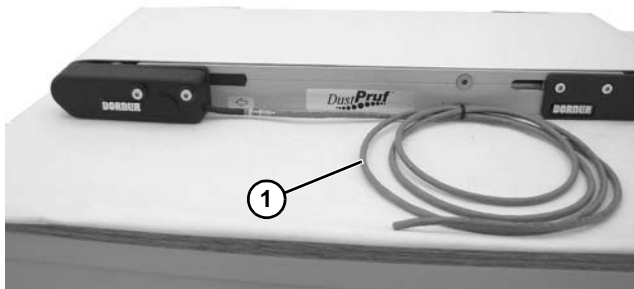

**Figure 31**
1. Locate lead wires (**Figure 32, item 1**) extending from iDrive cover. Determine wiring diagrams based on diagrams above (**Figure 31**).